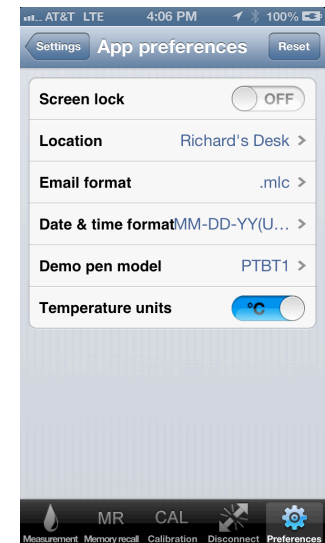

Figure 20
2. Tap the Application Preferences line on the Settings screen (see Figure 20).